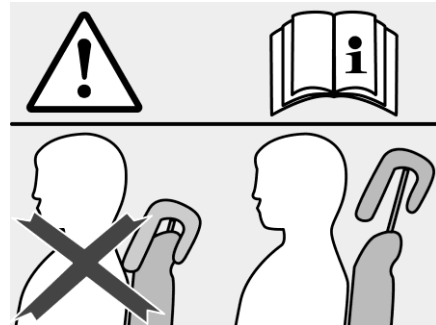

Fig. 18 Correct adjustment of the headrests
- Pull the headrest upward or push it downward until reaching the desired position (Fig. 18).